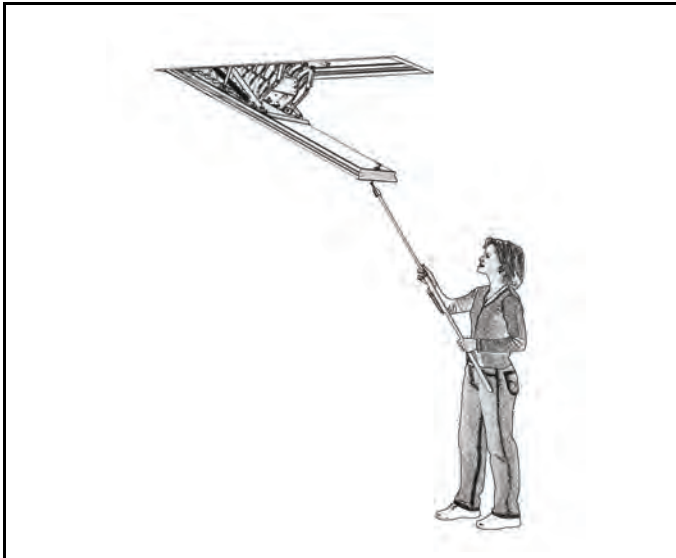

Figure 14
1. Insert hook provided into ring on door face and pull door down until fully open. Figures 14. (Door should stay in place at full open position.)